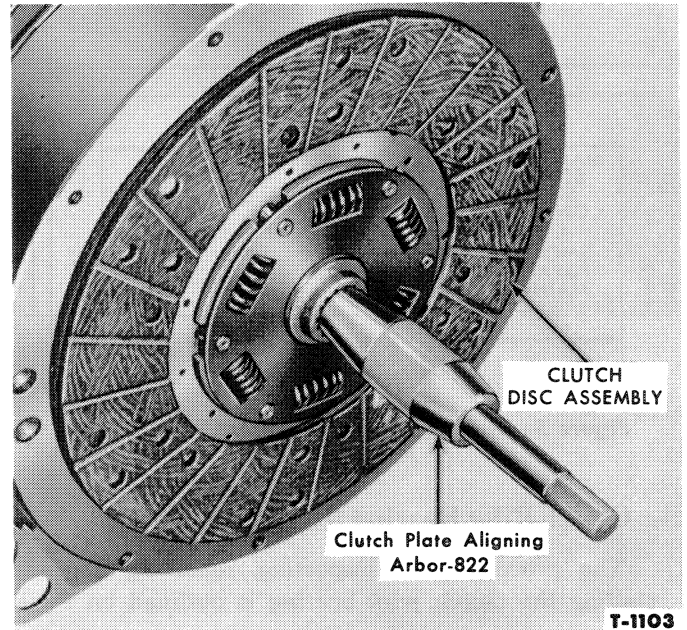

Figure 4—Installing Clutch Disc
1. Place Clutch Plate Arbor 822 through the disc and position the tool in the pilot bearing as shown in Figure 4. Be sure that the long end of the clutch disc hub faces toward the transmission.